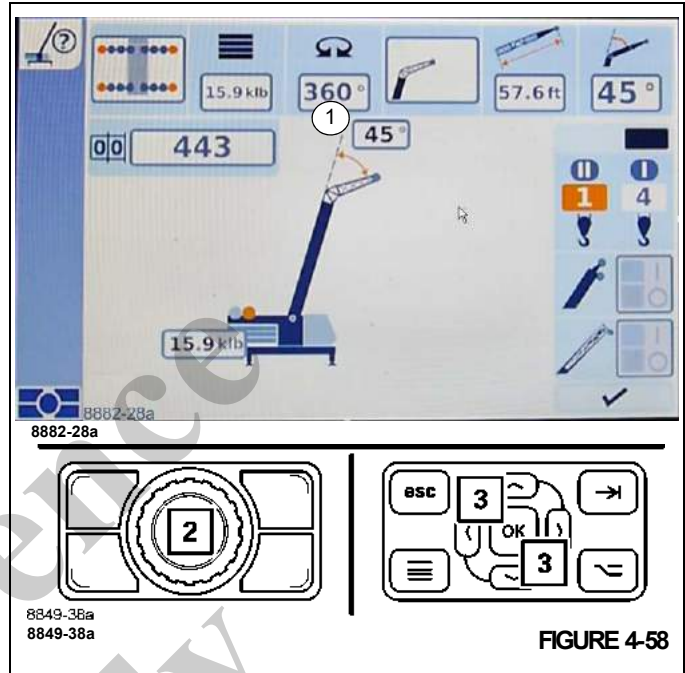

FIGURE 4-58
- Select and confirm the symbol (1), (Figure 4-58).
- Use the buttons (2) or (3) to select the required swing range, e.g. 360°.